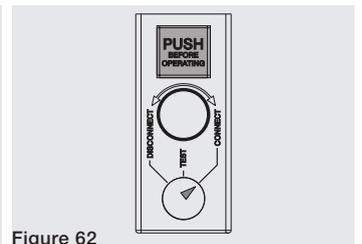

Figure 62
- circuit-breaker in CONNECT position (see Figure 62).